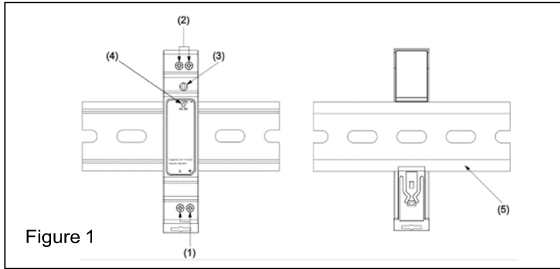
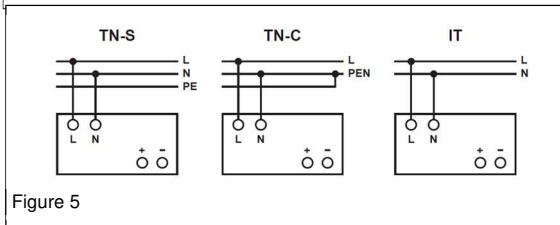

Figure 1
Figure 5
2. Device description (Fig. 1)
5.1. Input connection (Fig. 1 (1), Fig. 5)
Use L and N connections of input terminal connector (see Fig. 1 (1)) to establish the 100-240 VAC connection. The unit is protected with internal fuse (not replaceable) at L pin and it has been tested and approved on 20A (UL) and 16A (IEC) branch circuits without additional protection device.
5.2. Output connection (Fig. 1 (2))
The green LED DC OK displays correct function of the output (Fig. 1 (3)). The device has a short circuit and overload protection and an over voltage protection limited to < 7.5 VDC.